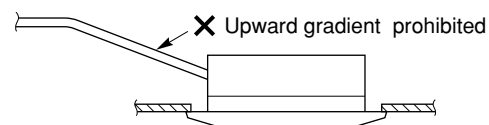

Fig. 3-29
- Do not install the pipe with an upward gradient from the connection port. This will cause the drain water to flow backward and leak when the unit is not operating. (Fig. 3-29)